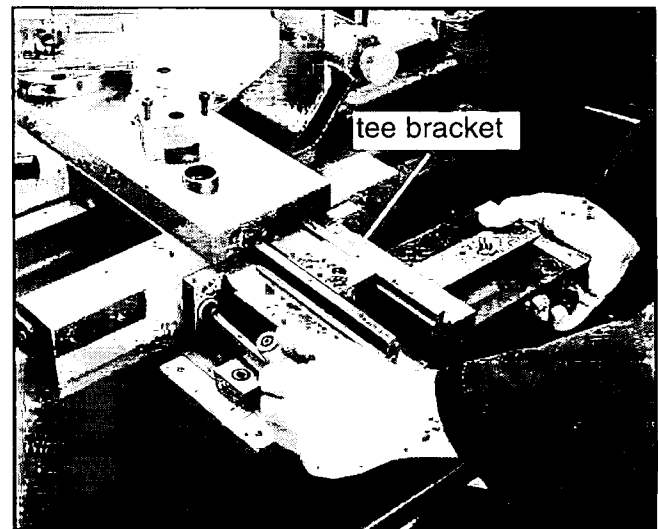

Figure 3. Attaching taper attachment to lathe.
9. There are 2 threaded holes located just below the cross slide on the apron. Assemble the taper attachment body to the back of the apron, while aligning the tee bracket to the slot at the top. See **Figure 3**. Loosely fasten the body to the apron using the two 10 mm Allen® head cap screws provided. Move the tee block back and forth by turning the cross slide handle. Stop when the hole in the tee block is over the hole in the slide. Insert the pin that was removed in **Step 6** until it engages the block and the slide.